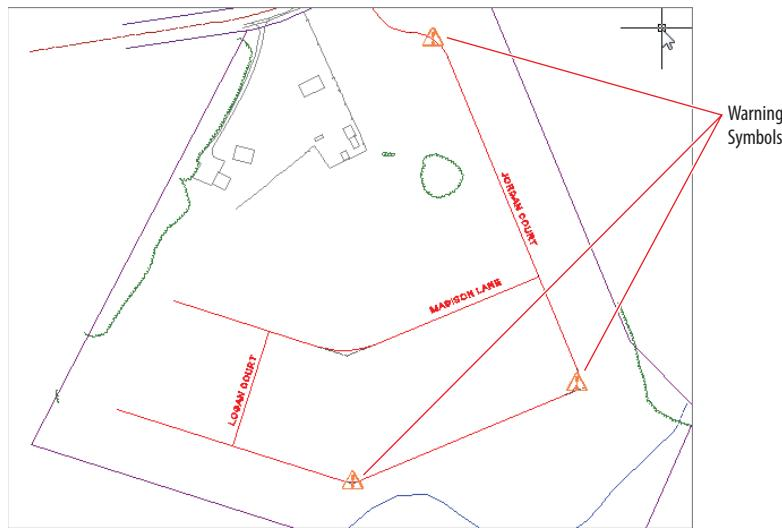

FIGURE 5.16 Warning symbols indicating design check set violations within the alignment
4. For Design Seed, type 25 (40), and press Enter.
8. Click OK to close the Alignment Properties dialog box. Press Esc to clear the grips on the alignment. You should see three yellow warning symbols in the drawing, as shown in Figure 5.16.